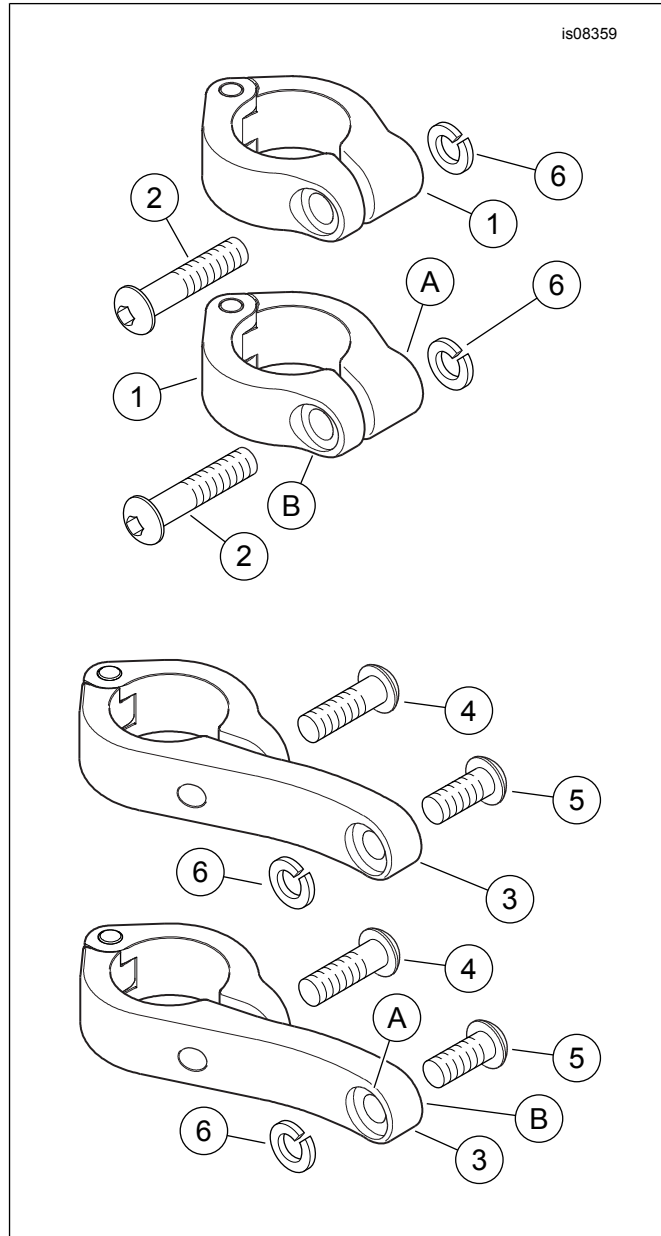

Figure 1. Service Parts, LED Bullet Fog Lamp Mounting Kits
See Figure 1 and Table 1.
1. See Figure 1. Get an engine guard clamp (1), screw (2) and lockwasher (6) from **this** kit.
2. Open the clamp. Place the clamp around the vertical section of the engine guard with the hinge rearward and the deep counterbore (A) inward.
3. Insert the screw through the clamp from the shallow counterbore (B) side. Slide the lockwasher onto the screw threads, into the deep counterbore.
1. See Figure 1. Get an engine guard clamp (3) and long screw (4) from **this** kit.